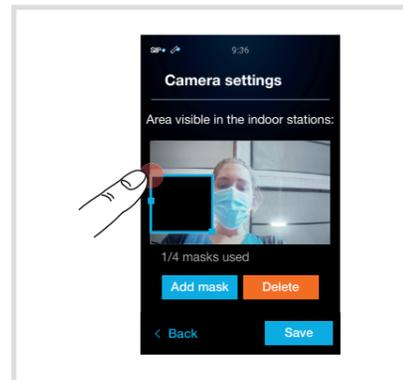

Fig. 35: Camera settings, masking
- To insert and change the size, follow the instructions on the display (Figure 35).